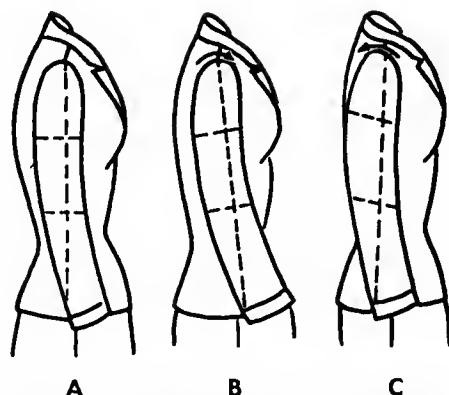

**Fig. 212.** Shaping the cap of the sleeve.
- E. Place the sleeve over a small tailor's ham, a press mitt, or the end of a sleeve board. Sponge just the seam allowance. Shrink in the fullness. Avoid wrinkles. Avoid pressing down into the sleeve (Fig. 212).